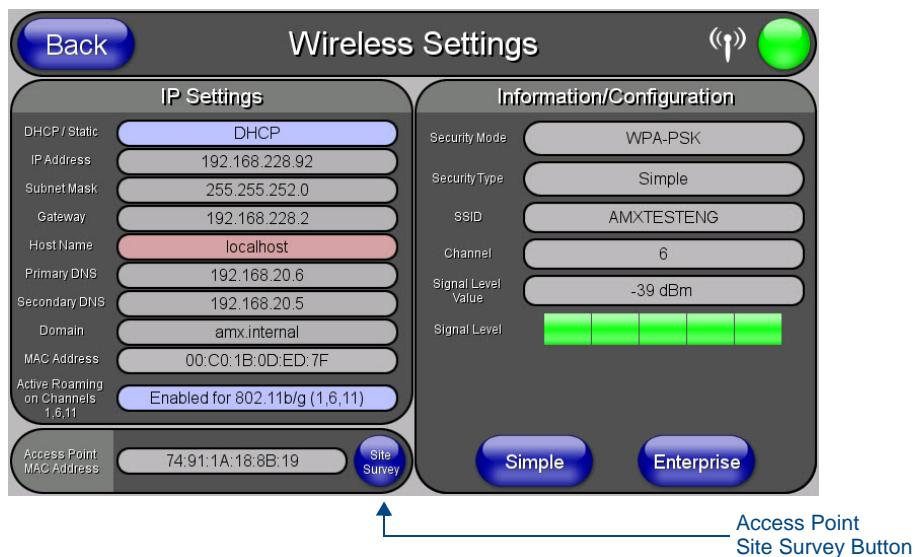

FIG. 19 Wireless Settings page (IP Settings section)
1. Select **Wireless Settings**. Wireless communication is set within the *IP Settings* section of this page (FIG. 19).
- From the *Protected Setup* page, press the **Wireless Settings** button to open the *Wireless Settings* page. Wireless communication is set within the *IP Settings* section of this page (FIG. 19).